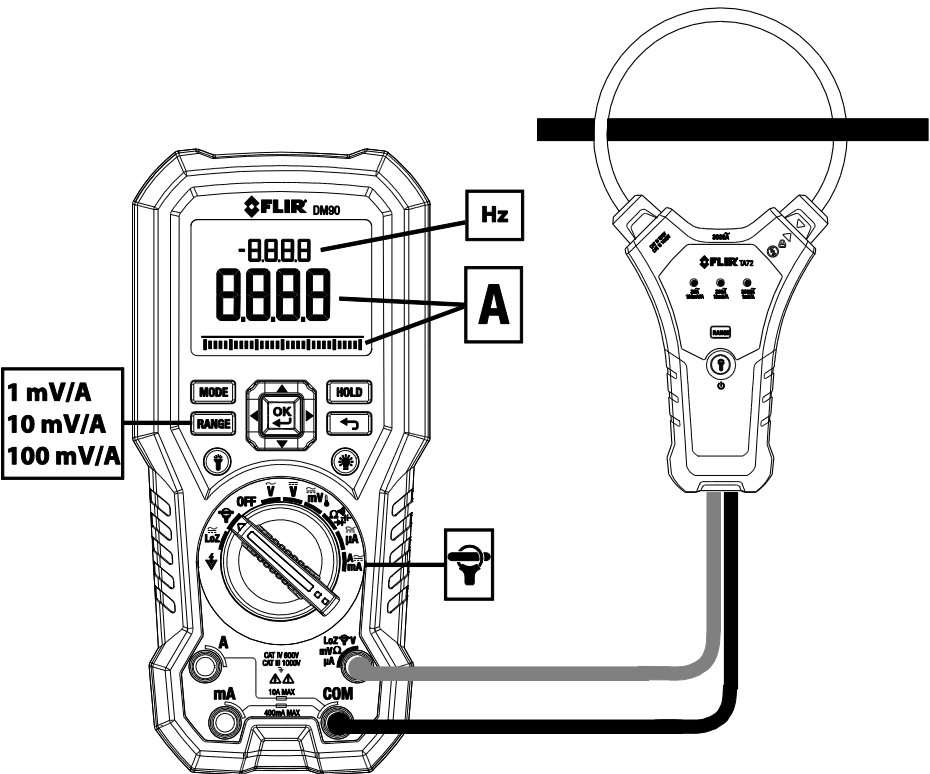

Fig. 5-11 FLEX Clamp Application
2. Connect a Clamp adaptor as shown in Fig. 5-11.